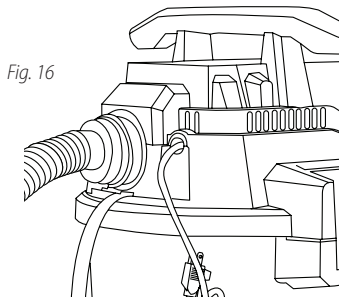

Fig. 16
36. The vacuum can be used as a powerful blower 3. Clear hose 12 of any obstructions. Insert machine hose end with locking nut into blower port 3 and tighten locking-nut. Fig. 16. Do not over-tighten. Caution should be used when using as a blower 3 due to the powerful force of air when using certain attachments.